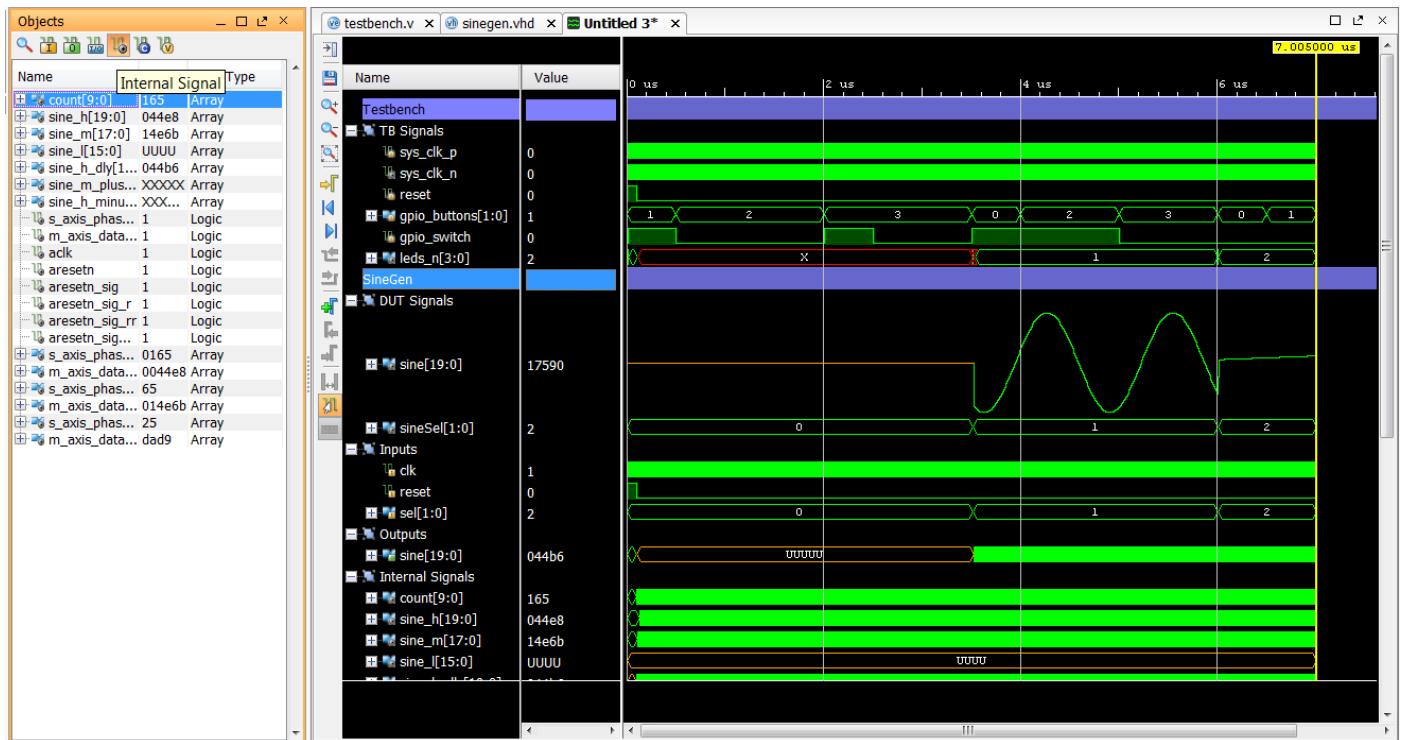

Figure 20: Configuring the Wave Window
- Repeat steps 5 and 6 above to filter the Output objects and drag them onto the Output group, and filter the Internal Signals and drag them onto the Internal Signals group, as shown in Figure 20.